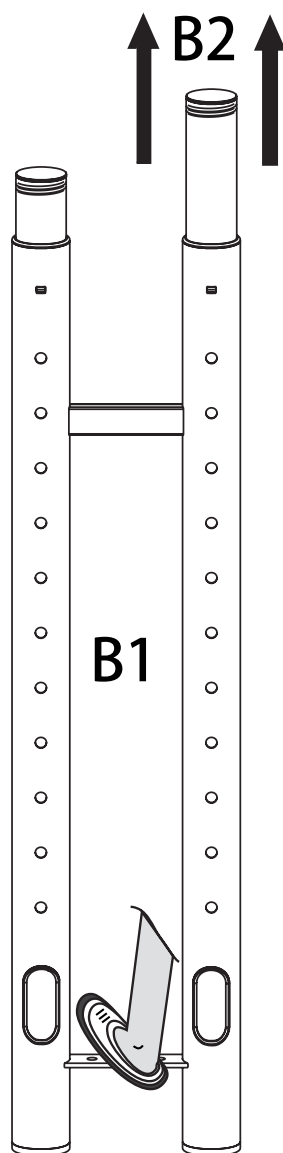

figure 2
- 2 Hold the poles B1 & B2 with your hands and use your left foot on the cross bridge of B1 for stability Pull B2 upward until you reach your desired height Twist B2 so that the spring plunger locks into the nearest spring plunger hole. (figure 2)